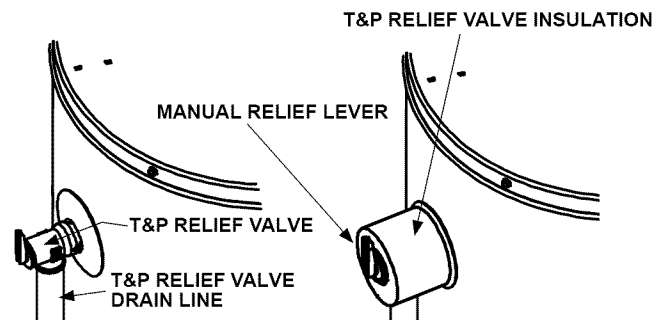

FIGURE 9.
1. Locate the temperature and pressure relief valve on the water heater (also known as a T&P relief valve). See Figure 9.
3. Spread the slit open and fit the insulation over the T&P relief valve. See Figure 9. Apply gentle pressure to the insulation to ensure that it is fully seated on the T&P Relief Valve. Once seated, secure the insulation with duct tape, electrical tape, or equivalent. **IMPORTANT:** The insulation and tape must not block the discharge opening or hinder access to the manual relief lever (Figure 9). Ensure a discharge pipe is installed into the T&P valve discharge opening per the instructions in this manual.